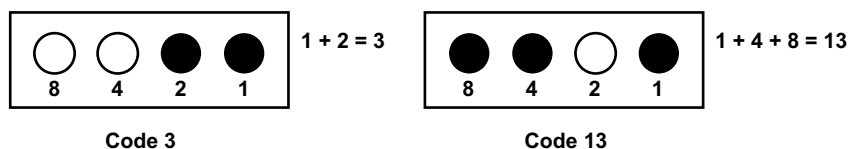

Figure 8-12 Honda engine Code Type 04
- Type 04, see Figure 8-12 and Table 8-5 on page 60